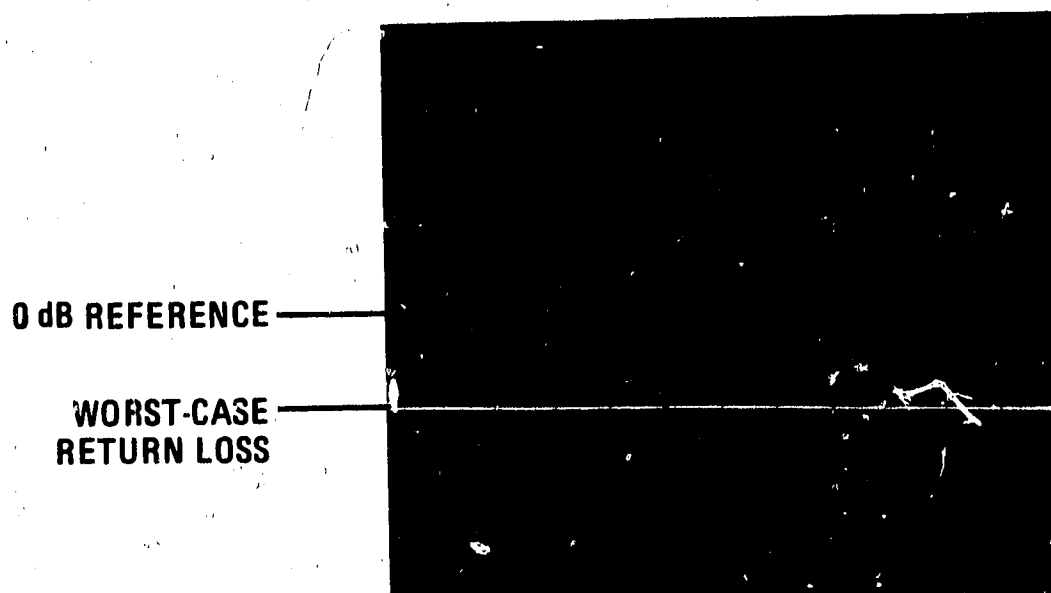

Figure 4-15. Port Return Loss (0.5 - 2 MHz)
- (1) Set 8505A Frequency Control RANGE MHz switch to .5 to 13. Set START FREQUENCY to 0.5 MHz and STOP FREQUENCY to 2 MHz. Connect short to Directional Bridge LOAD port.
- (2) Repeat steps k and l except that the indication should be ≥ 20 dB below the zero dB reference level for the frequency range 0.5 to 2 MHz (Figure 4-15).